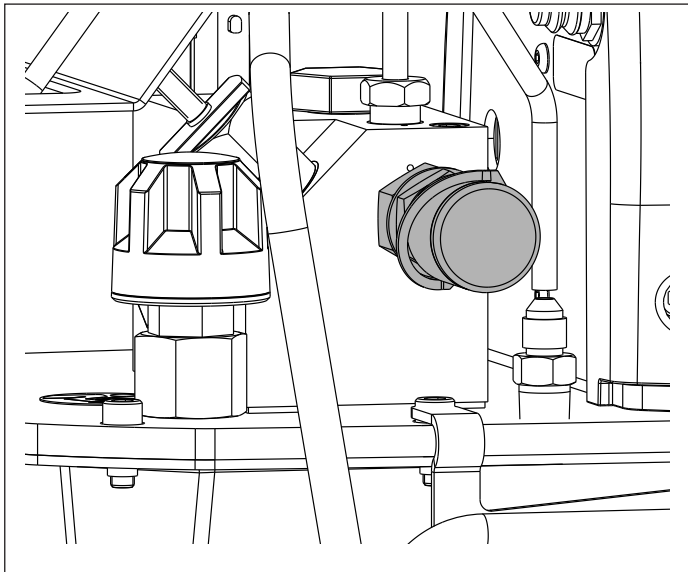

Figure 2, Oil Outlet Coupler
The ZUTP1500-S Series pumps are equipped with a female quick-disconnect hydraulic coupler for the oil outlet. This coupler is rated at 21,750 psi [1500 bar]. Refer to Figure 2.
1. Verify that the pressure gauge indicates zero (0) psi/bar. Be certain that all hydraulic pressure is fully relieved before continuing this procedure. If any pressure remains, then relieve pressure as described in Section 9.2.
2. Disconnect hose (if connected) from the oil outlet coupler. Refer to Figure 2.